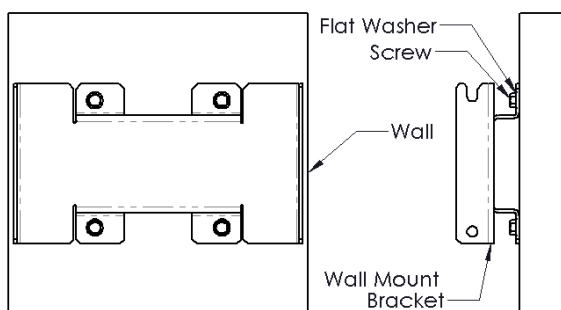

**Figure 3. Pole Mount with Tilt**
- Mounting kit 62-45-09 (Figure 3. Pole Mount with Tilt), which can provide tilt adjustment to the antenna.
**Table 2 – see figures 3 & 6**